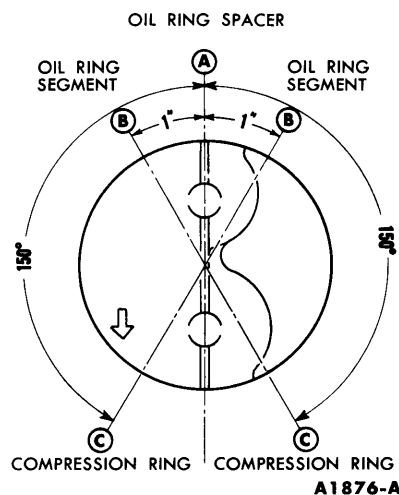

FIG. 41—Piston Ring Gap Spacing
3. Make sure the ring gaps are properly spaced around the circumference of the piston (Fig. 41).
Be sure the piston ring gaps are properly spaced (Fig. 41).